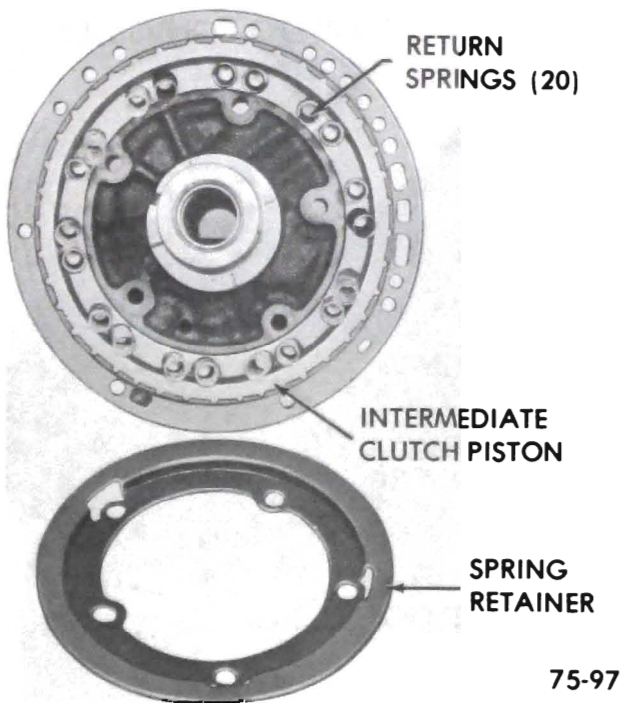

Figure 75-133
2. Remove twenty (20) intermediate clutch return springs and the intermediate clutch piston assembly. See Figure 75-133.
6. Install twenty (20) release springs. See Figure 75-133.